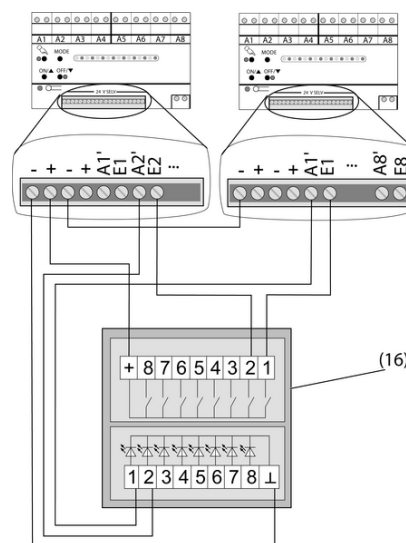
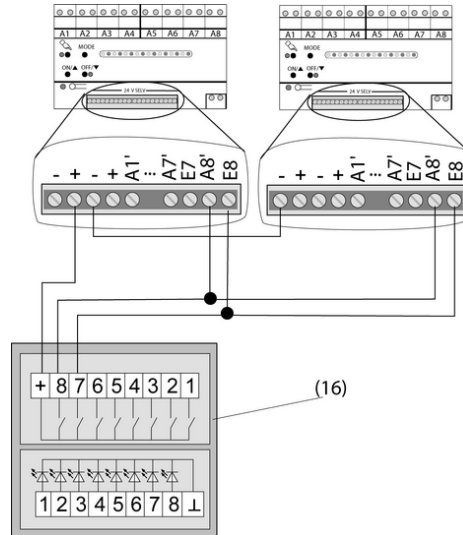

Figure 8: Wiring example for connecting one push-button sensor 24 V to two relay stations
Figure 9: Wiring example for Central ON, Central OFF
In operation with push-button sensors 24 V or pushbutton modules 24 V, they can be connected to up to four relay stations. To do this, the negative poles of the individual relay stations have to be connected to each other. It is possible, for example to switch load outputs of several relay stations with a single push-button sensor 24 V (figure 8), or to implement central control of several relay stations (figure 9).
Wiring example for connecting one push-button sensor 24 V to two relay stations. Here channel 1 of the push-button sensor 24 V switches load output **A1** of the right-hand relay station, and **Kanal 2** switches load output **A2** of the left-hand relay station (figure 8).
- Connect push-button sensor 24 V as shown in the wiring example Here channel 7 of the push-button sensor 24 V Central ON and **Kanal 8** switches Central OFF (figure 9).